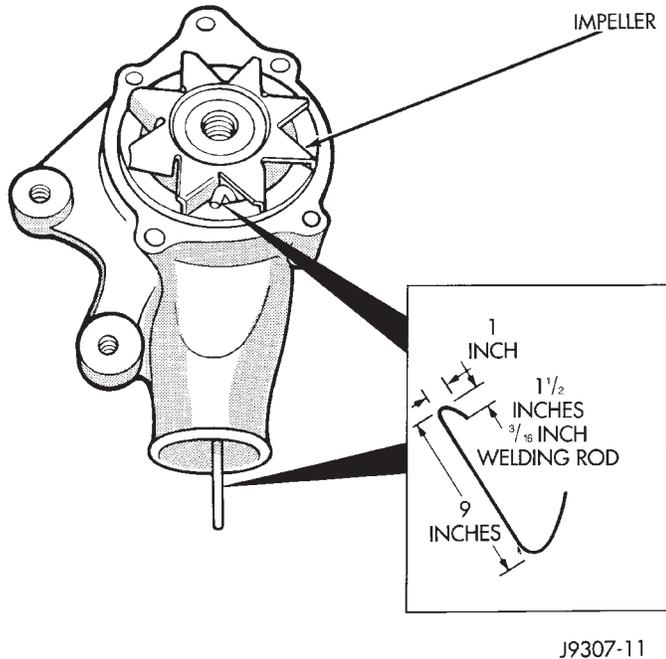

Fig. 16 Impeller Test—Typical
- (1) Drain the cooling system. Refer to Draining Cooling System in this group.
- (2) Loosen the fan belt. Refer to Belt Service in the Engine Accessory Drive Belt section of this group.
- (3) Disconnect the lower radiator hose from the water pump.
- (4) Bend a stiff welding rod or similar device as shown in (Fig. 16). To prevent breakage of rod, minimum thickness should be 3/16 inch (.187 inches).
- (5) Position the rod in the water pump inlet and attempt to hold the impeller while turning the fan pulley. If equipped with a thermal viscous fan drive, rotate the water pump shaft with a wrench attached to one of the fan pulley mounting nuts. If the impeller is loose and can be held with the rod while the fan blades are turning, the pump is defective. Do not use excessive force when rotating pump shaft. If the impeller turns, the pump is OK.
- (6) Connect the hose and install the coolant, or proceed with repairs.